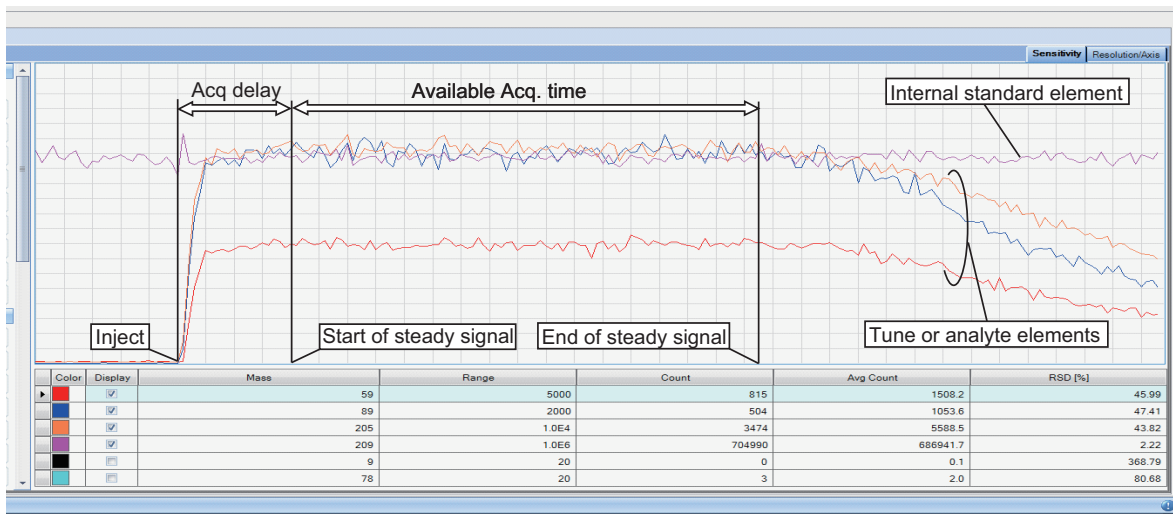

Figure 14
- Set acquired masses for at least 1 tune solution element (3 are shown in Figure 14) that is not an ISTD element such as Co and one internal standard element (2 are shown in Figure 14) that is not also a tune element, such as In. Set both to display.